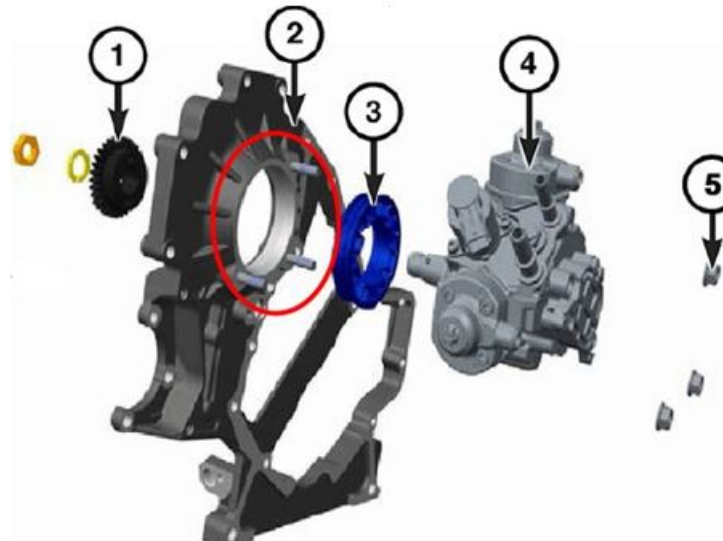

Fig. 3
3. Remove all three fuel pump mounting studs in the front gear housing and discard them (Fig. 3) .